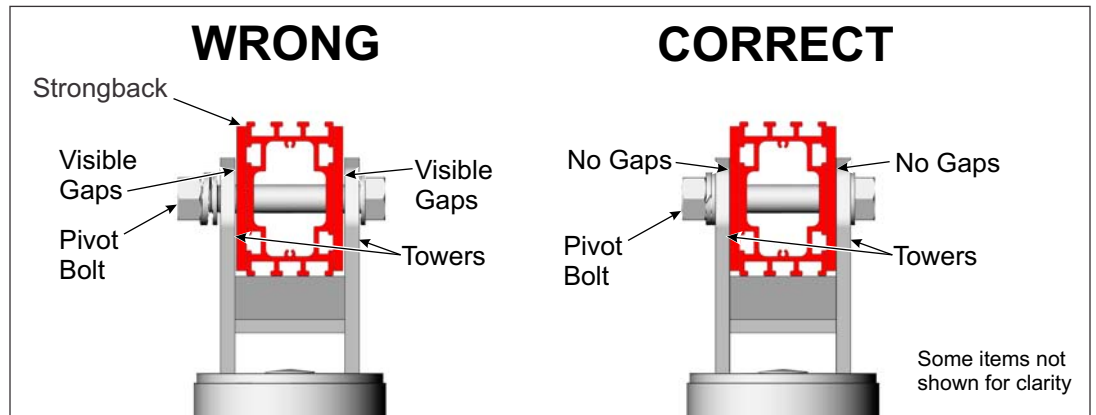

Figure 6-2: Tighten and Torque the Pivot Bolt
- C. Re-tighten the Pivot Bolt. After changing the tilt angle and tightening the Support Bar hardware, the Pivot Bolt must be re-tightened. The Pivot Bolt cannot be left loose - the Mounting Sleeve Vertical Towers must be firmly clamped to the sides of the Strongback eliminating any gaps between the Vertical Towers and the Strongback. **Torque to 125-150 ft.-lbs.** (See Figure 6-2)